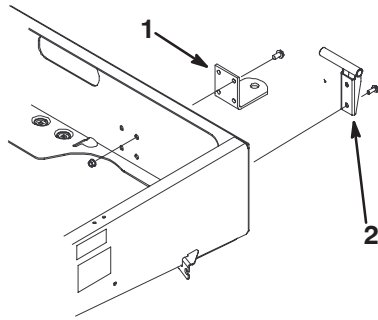

Figure 7
2. Align the hitch with the mounting holes on the frame. Secure the hitch with the screws and nuts (Fig. 7).
2. Mount the left hand pivot bracket to the left rear corner of the frame with 2 flange head screws (3/8 x 1 inch). Position the bracket as shown in Figure 7.